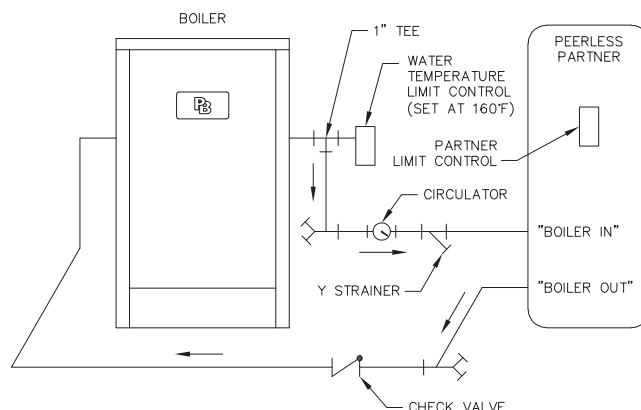

Figure 4.5: Typical Steam Boiler Indirect Water Heater Piping
1. See Figure 4.5 for typical installation.